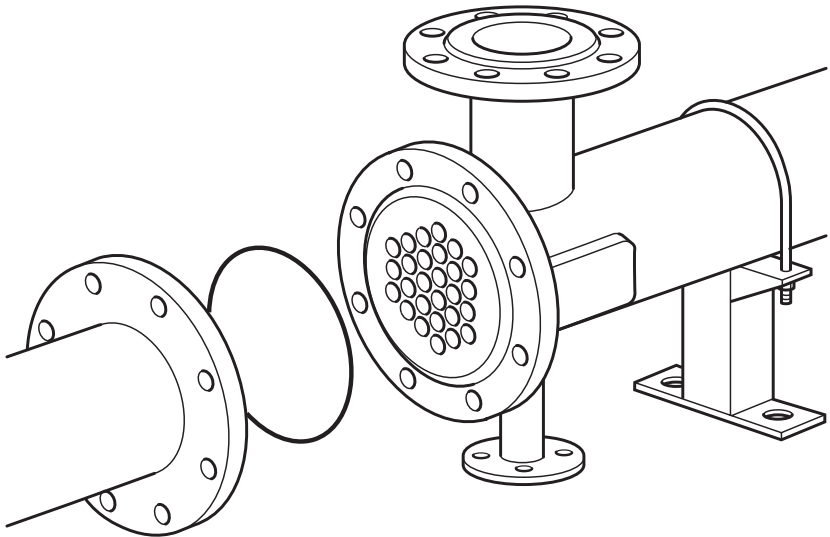

Fig. 13
- replace the gaskets with new ones as indicated in Figure 13.